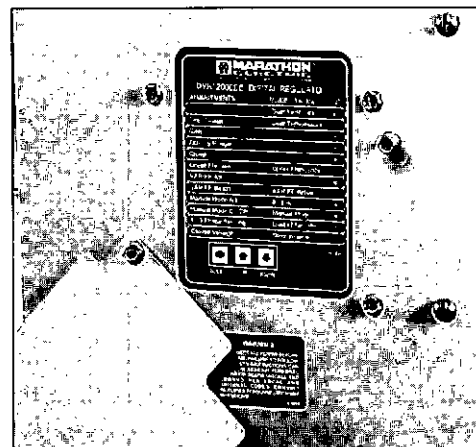

Figure 4-2
4. Replace the regulator fuse and adjust the voltage to the required value (figure 4-2). Check all line to line and line to L0 voltages to be sure they are correct and balanced. If the voltages are not correct, shut down immediately and recheck all connections. See section 3.
See Figure 4-2 for enhanced view of this area.